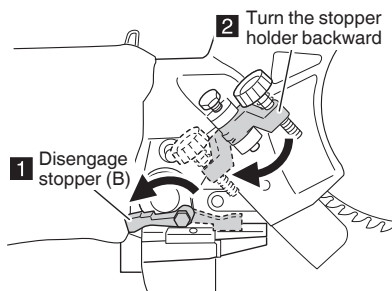

Fig. 27
- (3) Disengage the stopper (B) and turn the stopper holder on the side of the head backward. (Fig. 27)